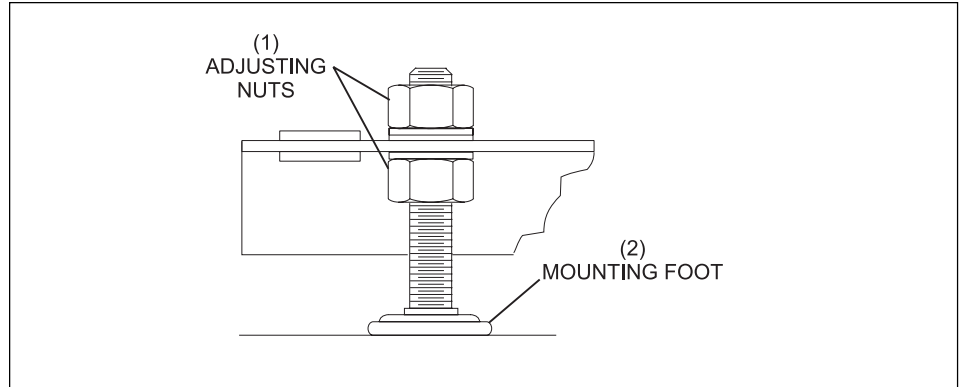

Figure 8. Mounting Feet
This adjustment is made to insure that Ballworx is level and supported on all four (4)-mounting feet to avoid unnecessary vibration and for proper ball polishing performance. Refer to *Figure 8*.
- (1) ADJUSTING NUTS
- (2) MOUNTING FEET